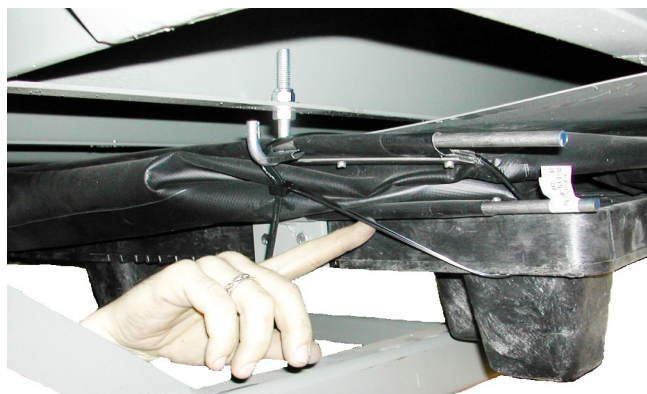

Figure 7
2. Make sure the mounting hardware of lifting brackets (A) is snug. The brackets should pivot without binding on the mounting cap screw.
3. Attach lifting chains to lifting brackets (A) and to a lifting device (i.e., hoist or fork truck) having the appropriate lifting capacity and reach.
6. Remove 3 plastic ties that hold the bag and bag support skid to the underside of the leveler during shipping before lowering leveler into pit (see Figure 7).